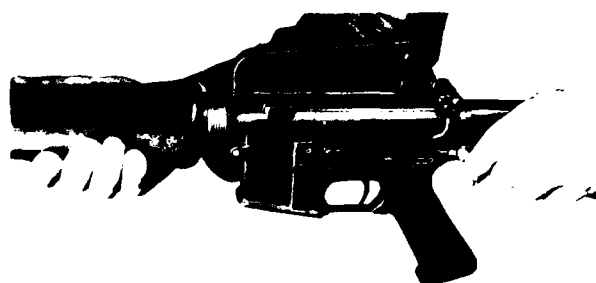

Figure 4-9.—Pressing takedown pin to the right.
2. Keeping the muzzle to the left, turn the weapon on its right side. Press the takedown pin to the right (fig. 4-9) until the upper receiver swings free of the lower receiver (fig. 4-10). CAUTION: The takedown pin does not come out of the receiver.